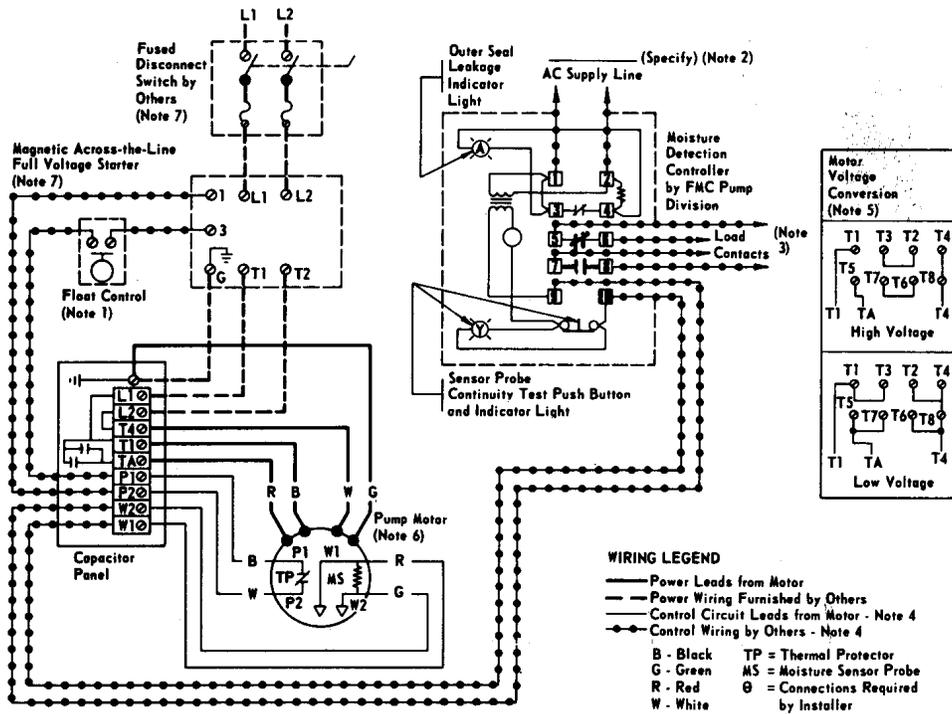

Figure 4. Single Phase Wiring Diagram, C84A or C93A Float Controls
**WIRING IMPORTANT:** Connect the electric service to the controls and make inter control electrical connections when necessary according to wiring instructions accompanying the switches and motor, using conduit and wire sizes as required by local codes. Typical wiring diagrams are illustrated in figures 4 thru 7. Be sure the current characteristics of voltage and frequency indicated on motor nameplates are the same as those of the service provided.